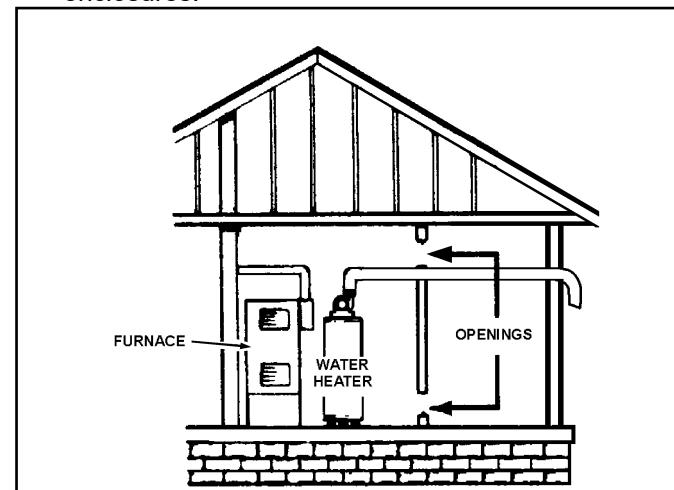

Figure 17.
A. ALLAIR FROM INSIDE BUILDINGS: (See Figure 17)